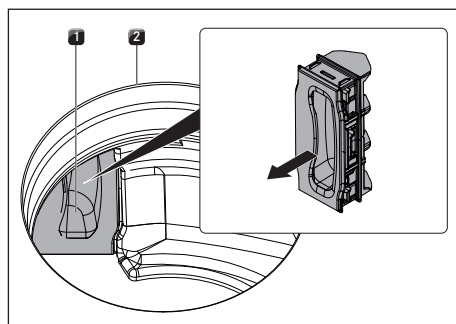

Fig. 8.4 Remove the filter replacement cover
- Inside the inlet opening pull the filter replacement cover out of the filter housing opening (to remove the filter replacement cover see Fig. 8.4).